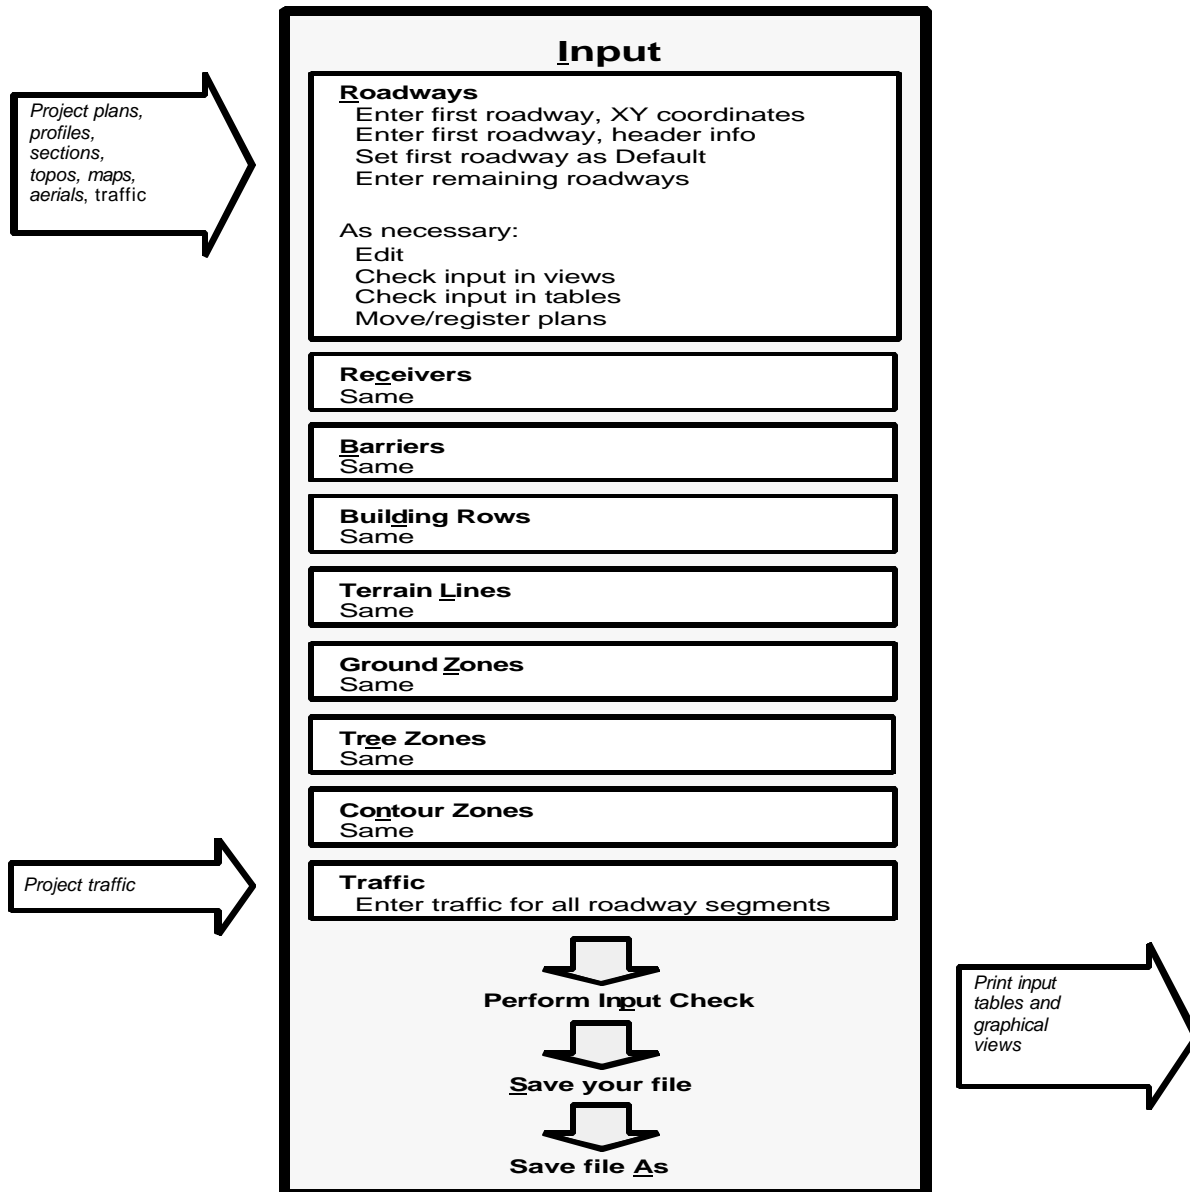

Figure 17. Input: Work flow.
Within FHWA TNM[®], after Setup you then enter all input for a given run. This section first discusses TNM default objects and then each input type, including their default values and constraints, in detail. Additional input details appear in Appendix B. Figure 17 shows the work flow for Input. In regard to Figure 15, the following should be kept in mind:
- **Project materials and input types:** During input, you enter all information from your project plans, profiles, sections, topography, maps, aerial photographs, and traffic. In Figure 17, the arrows to the left of the setup rectangle remind you of this. From these materials, you enter the following TNM input types: Roadways, Receivers, Barriers, Building Rows, Terrain Lines, Ground Zones, Tree Zones, and Contour Zones.
- **Input order:** Figure 17 shows TNM input types from top to bottom within the shaded rectangle. The order of input is generally not important, with a few obvious exceptions. For example, you must enter roadways before traffic. In general, you will enter input of all types from a single plan sheet and then will proceed to the next plan sheet to enter its input. The order in the figure is suggested, but not required, for each of these plan sheets.
Roadway widths. The skew section of Figure 17 shows several roadways with overlapping widths. Such overlap might occur with parallel mainline roadways or when a ramp merges with a mainline. In the skew section, TNM draws a ground line from roadway edge to roadway edge, without regard to their overlap. During calculation, however, TNM smoothes out this ground line as shown by the added heavier line in the figure. Because of this smoothing, overlapping roadways are calculated correctly. Note that TNM's ground-line smoothing changes during calculation, depending upon which roadway's sound is being calculated.